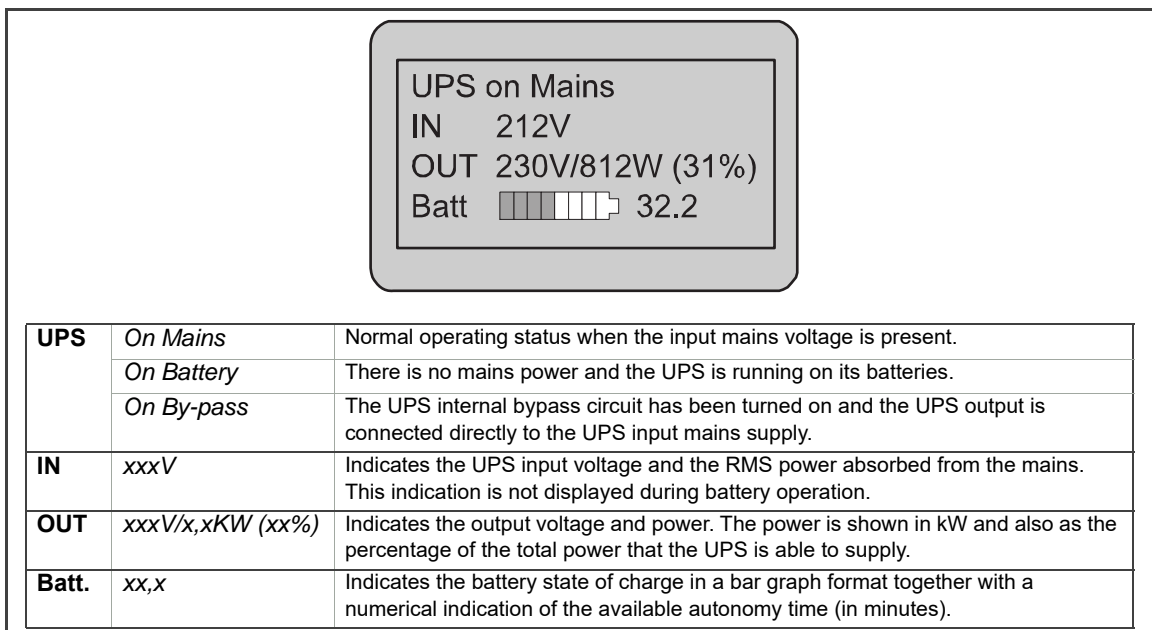

Figure 4.2 LCD Display panel during normal operation
- c) The UPS Control Panel LCD display will show the UPS input and output parameters and appear similar to the example shown in Figure 4.2.
- c) The UPS Control Panel LCD display will indicate the UPS input and output parameters and appear similar to the example shown in Figure 4.2 except that there will be no output power shown as the load is currently being powered via the maintenance bypass switch.
3. OPEN the maintenance bypass switch (0) on the UPS mains power connector.